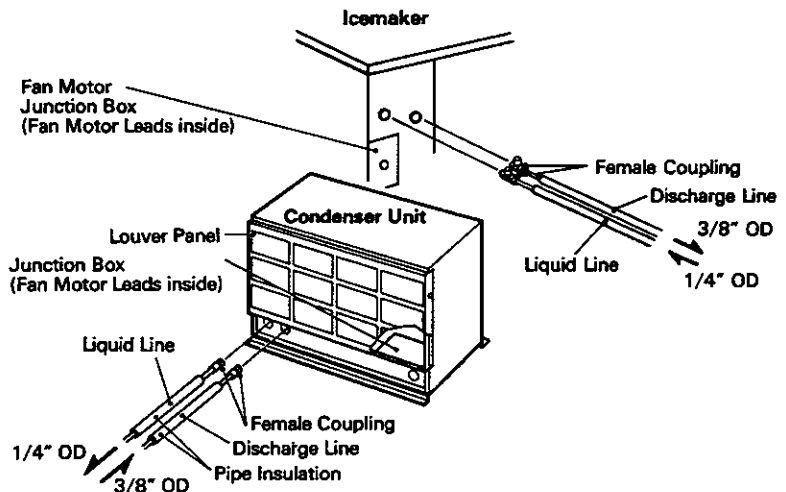

Fig. 7
- 3) Install enough length of two copper tubings provided with Aeroquip couplings between the icemaker and the condenser unit. The two copper tubings should be insulated separately. (See Fig. 7.)